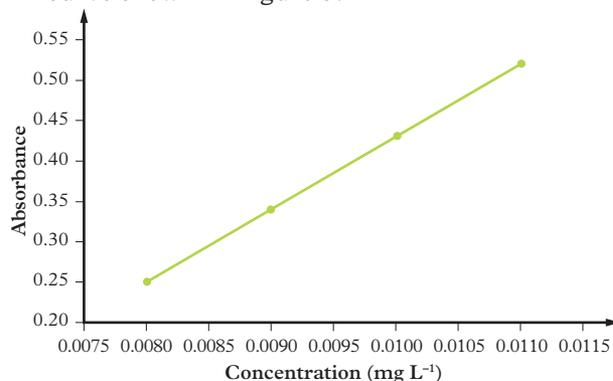

FIGURE 3 A calibration curve for Pb^{2+} ions
- 25 A soil sample near a major road was tested for lead ions (Pb^{2+}) by UV-visible spectroscopy. The sample had an absorbance of 0.39. Four known concentrations of Pb^{2+} ions were analysed to create the calibration curve shown in Figure 3.